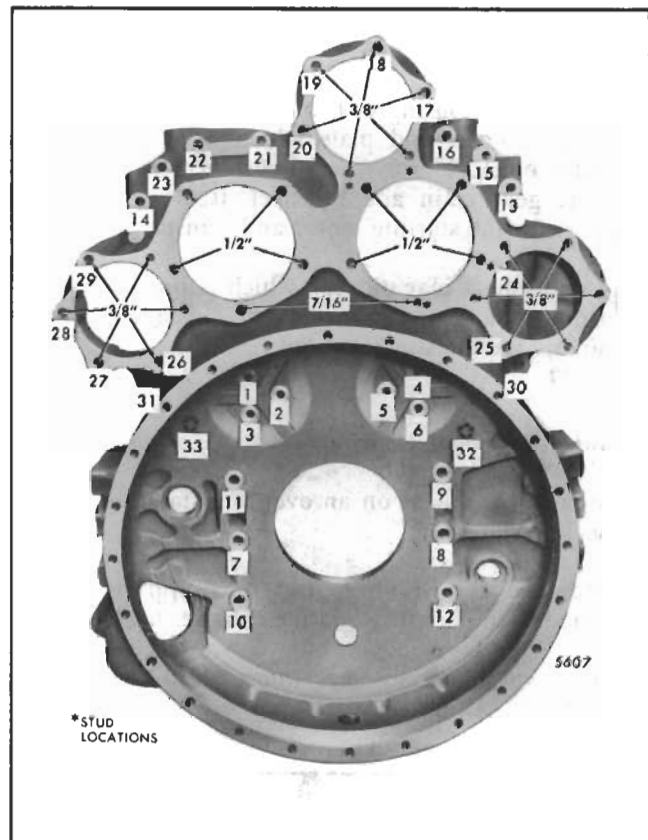

Fig. 4 - Flywheel Housing Bolt Tightening Sequence (Operation 1)
6. Install all of the flywheel housing bolts, washers and lock washers, while removing the pilot studs, finger tight only (refer to Fig. 4).
7. Refer to Fig. 4 for the bolt tightening sequence and, starting at number 4 on a right-hand rotation engine or at number 1 on a left-hand rotation engine, draw the flywheel housing bolts up snug.